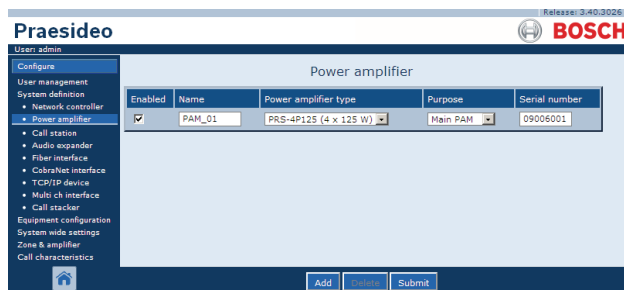

figure 43.7: Add power amplifier, step 4
- 3 Enter the data of the power amplifier (see figure 43.7 for an example).
- Click the **OK** button to add the power amplifier to the list of power amplifiers in the system. A screen similar to the one in figure 43.7 appears in the main frame of the web interface.